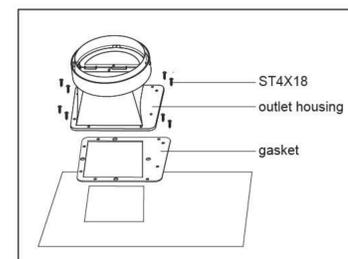

fig10
- Place the outlet housing and the sealing rings at the air outlet of the main body, and use 8 screws (M4 $\times$ 18mm) to fix the outlet housing and the sealing rings. (fig10)